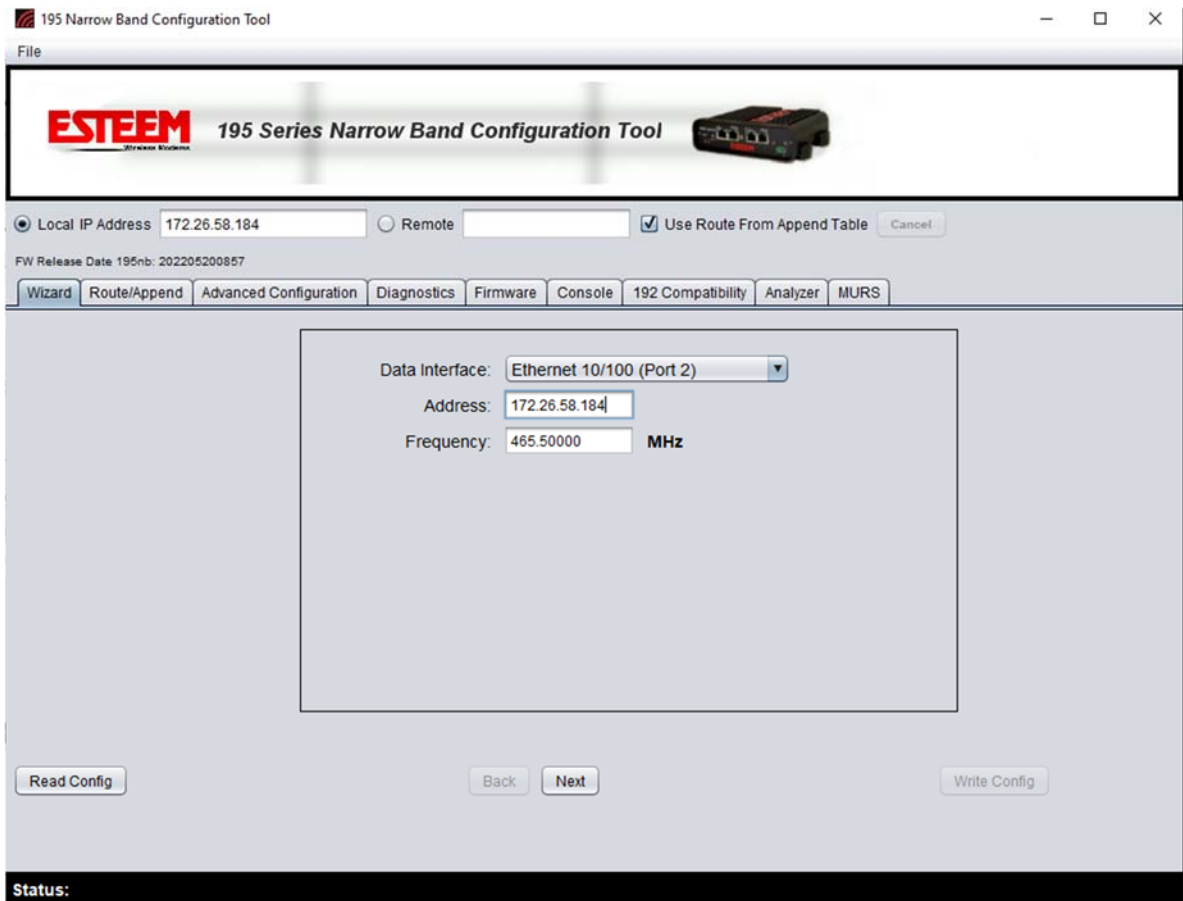

Figure 2: Ethernet Bridge Configuration Page
1. Set the Data Interface in the 195 Series Narrow Band Configuration Tool to Ethernet 10/100 (Figure 2).